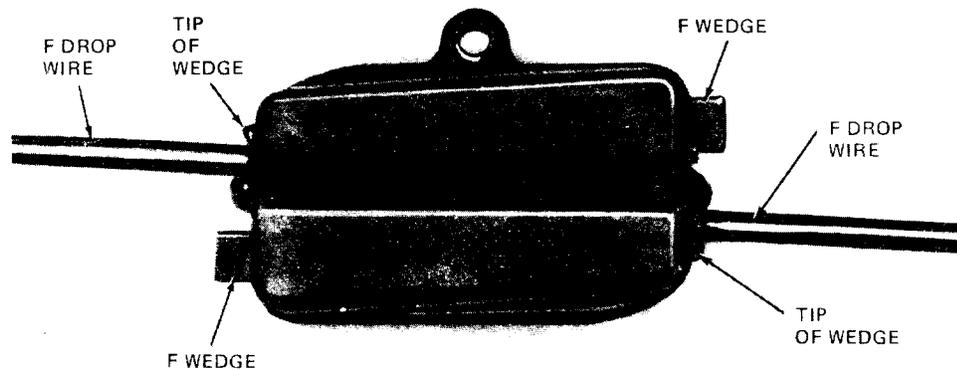

Fig. 6—Completed Splice—F Drop Wire to F Drop Wire
4.05 Insert pair two into the other end of the splicing shell marked **WIRE IN** and push in until it stops. Push up and in on the wedge, then tap the wedge with a pair of pliers as described in paragraph 4.03 to secure the wire. Figure 6 shows a completed splice.